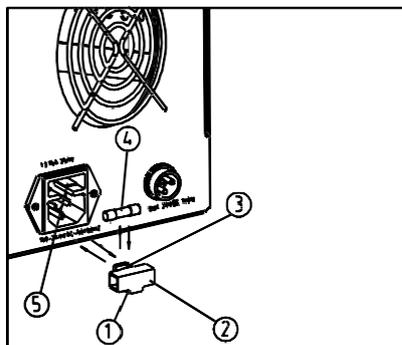

Fig 16
(1) Before replace fuse, please set the main power supply and mercury lamp power supply at “O” (OFF) and take off the plug.
(2) Fasten the flute ① under the fuse holder ② by fingers, take out the fuse holder ② from socket ⑤. Then take off the fuse ④ from the above flute ③ and replace it with a new one. Then put it to the flute ③ and push the fuse holder ② into the socket ⑤, until a sound of “kada” is heard. (See Fig. 16)